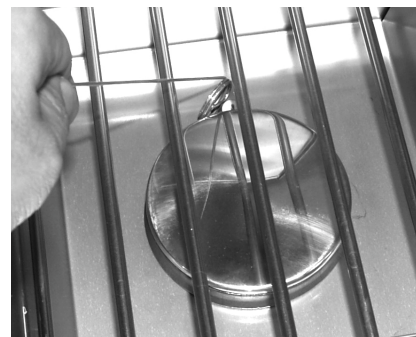

Fig. 35-2 Manual lighting
**CAUTION:** Always wait five (5) minutes for gas to clear after any unsuccessful lighting attempt.
2. Insert either a burning long-barrel butane lighter, a burning long-stem match, or a burning match held by a wire extension holder through the cooking grid opening to the burner (Fig. 35-2). Hold the flame against the edge of the burner.
4. If the burner does not light within five (5) seconds of turning the control knob, **immediately depress the knob and turn the valve to OFF**. **WAIT FIVE (5) MINUTES** before repeating steps 2 through 4 of the MANUAL LIGHTING instructions.